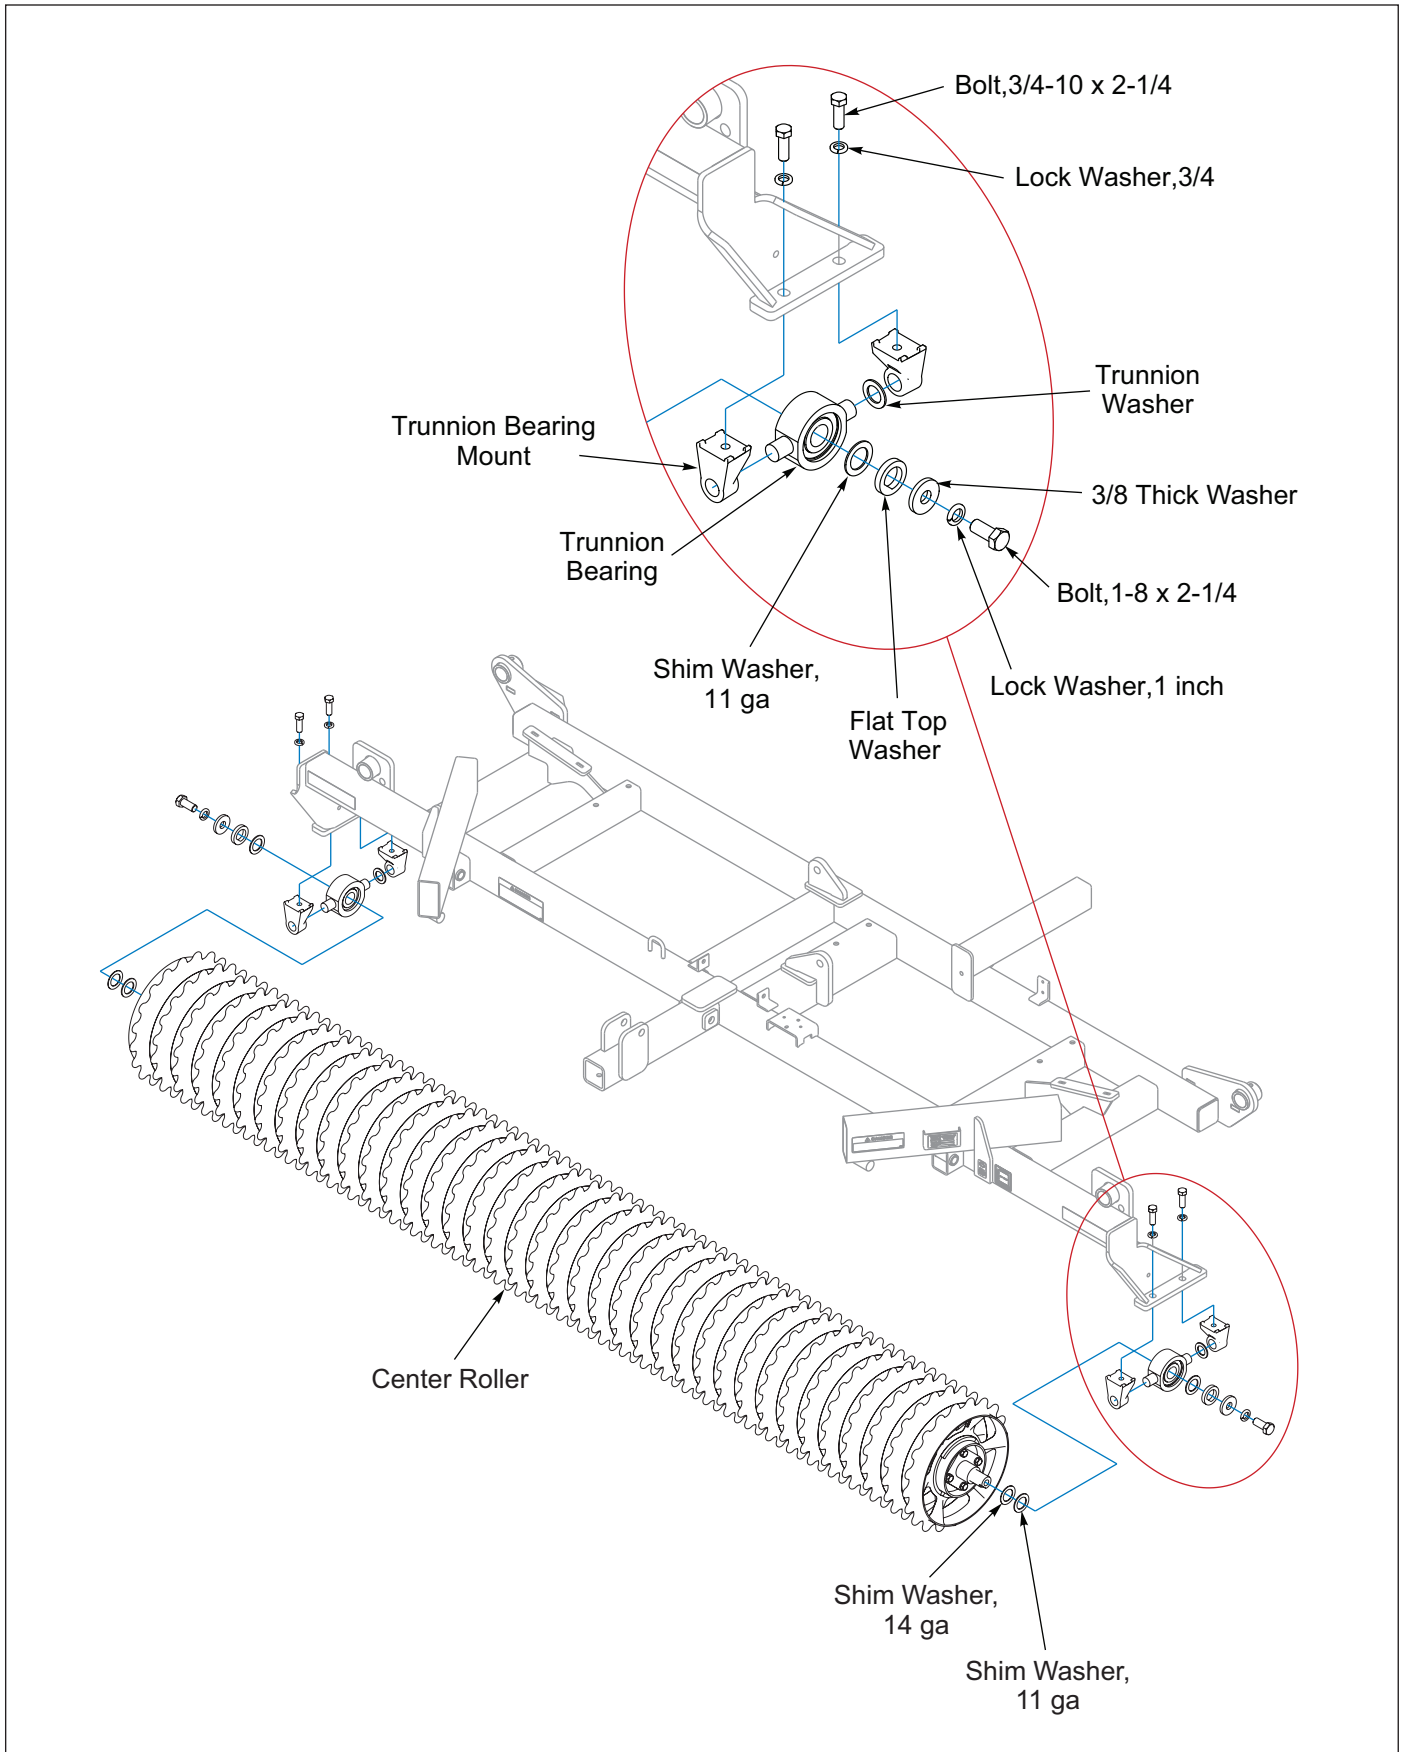

Figure 2-6: Center Roller Assembly Installation
4. Look at each Trunnion Bearing Mount to make sure that it is sitting perpendicular to the Center Frame Bearing Hanger. If not adjust the Shim Washers accordingly, for each side there are two 11ga and one 14ga Shim Washers. Shim Washers can be all three on the inside between the Stub Shaft shoulder and the Trunnion Bearing, all three can be on the outside between the Trunnion Bearing and Flat Top Washer, or a combination on either side, but all three must be used to minimize the gap. If gap cannot be properly minimized with bearing snap rings to outside, turn bearing around to have snap ring to inside. The bearing inner race is offset with respect to the trunnion bosses by 1/32". By installing bearings with snap rings in versus out, 1/16" difference can be made up at assembly if needed. **See Figure 2-6.**